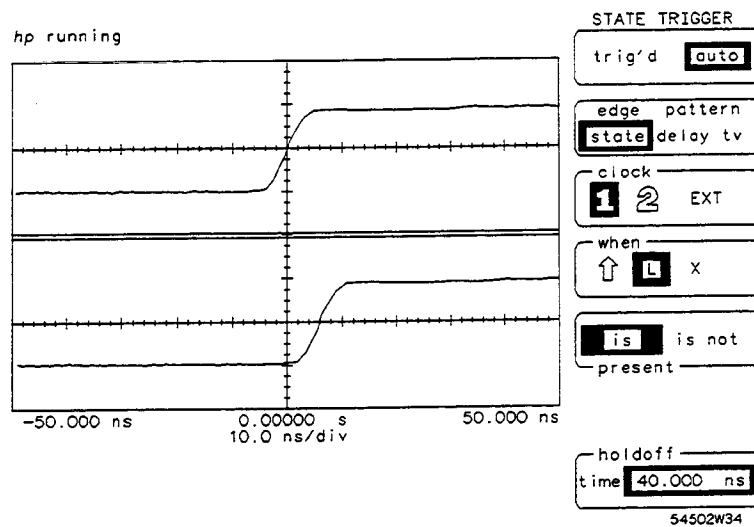

Figure 6-11. Channel 1 Clock LX State
- Press the when key until is present is selected (see Figure 6-11).